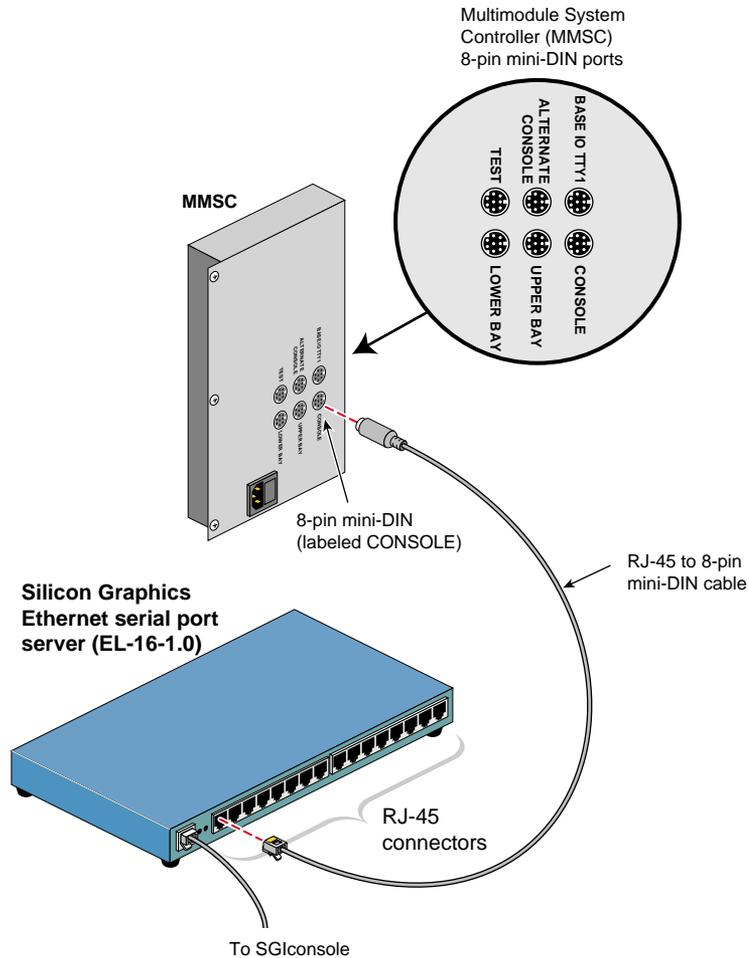

Figure 2-44 Connecting the Serial Port Server to the MMSC 8-pin mini-DIN Console Port
5. Connect the RJ-45 connector end of the RJ-45 to 8-pin mini-DIN twisted-pair serial cable to one of the RJ-45 serial jacks on the Silicon Graphics EL serial port server. Then connect the 8-pin mini-DIN end of the cable to the MMSC 8-pin mini-DIN jack labeled "Console." See Figure 2-44.